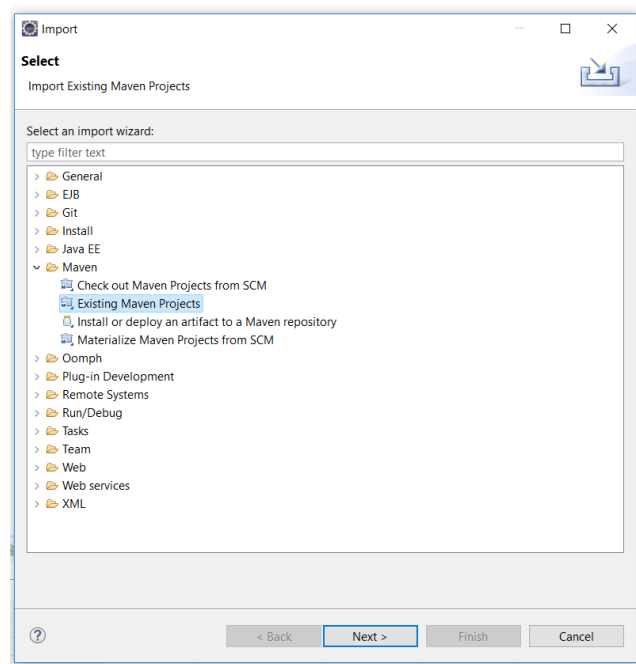

Figure 2.3
Step 3: Select Maven -> select Existing Maven Projects (see Figure 2.3)